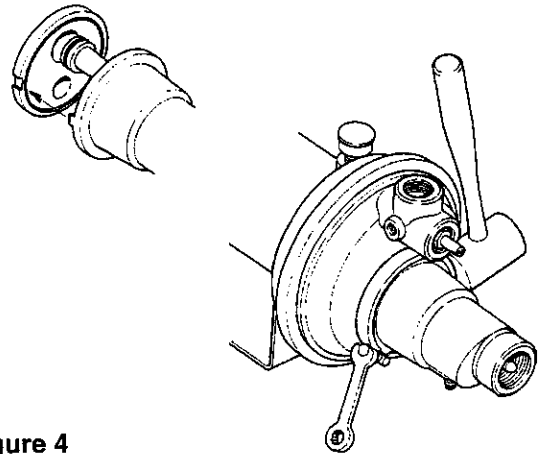

Figure 4
12. Insert venturi into upper pump port; be sure tabs and slots align (see Figure 4).
13. Install clamp and snug up; alternately tighten clamp screw and tap clamp with mallet to seat O-ring (see Figure 4).